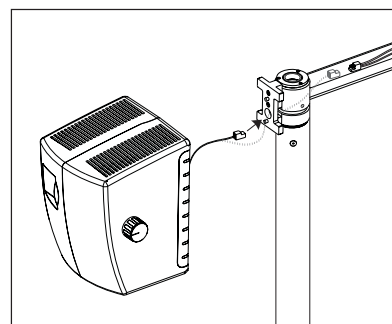

Fig. 6
- 7.8 Fix the illumination box on the pillar only after having the connectors passed through the hole provided on the H- block. Refer to fig 6.